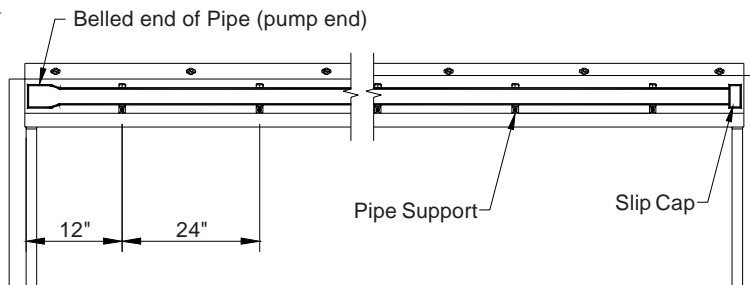
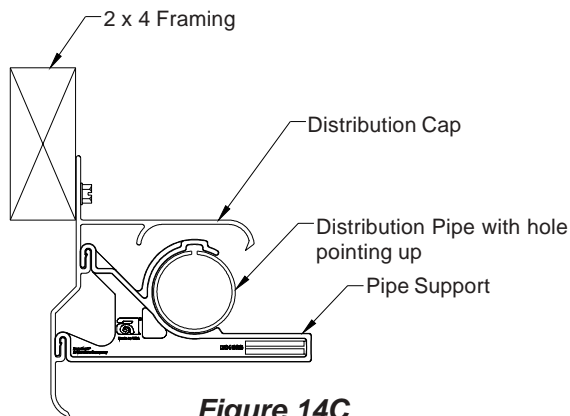

Figure 14B
Figure 14C
- 20) Snap pipe into pipe supports, **See Figures 14B & 14C.** The section of pipe with the slip cap will go on the end opposite the supply / pump end. For systems longer than 12', connect sections of pipe together keeping holes aligned. **See Figure 14B.** Rotate pipe so that holes are straight upward (12 o'clock). **See Figure 14C.**